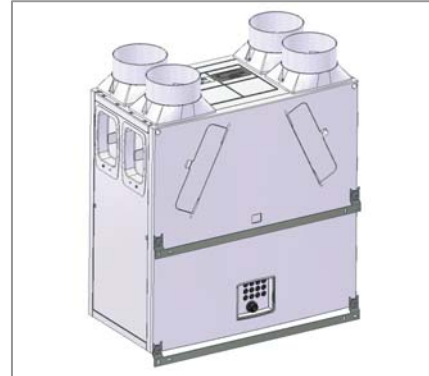

Figure 20: Wall Bushes (Rear of Unit)
5. Lift unit and locate 4 wall bushes onto the 2 wall brackets. The unit should now be physically installed in its intended operating location (see *Figure 20*).